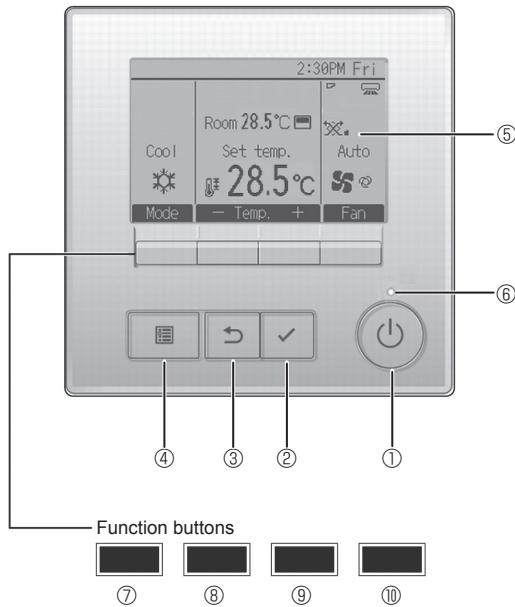

Fig. 6-2
6.3.1. Using wired remote controller (Fig. 6-2)
① [ON/OFF] button